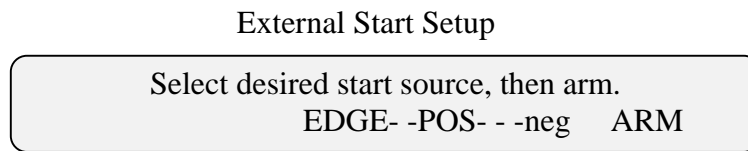

Figure 3.7.11.1
- d. Using the External Start Setup Menu, Figure 3.7.11.1, select the Starting Edge desired.
- e. ARM the External Start one (1) Second prior to the entered start time.
The LCD Display will be as shown in Figure 3.7.11.1.